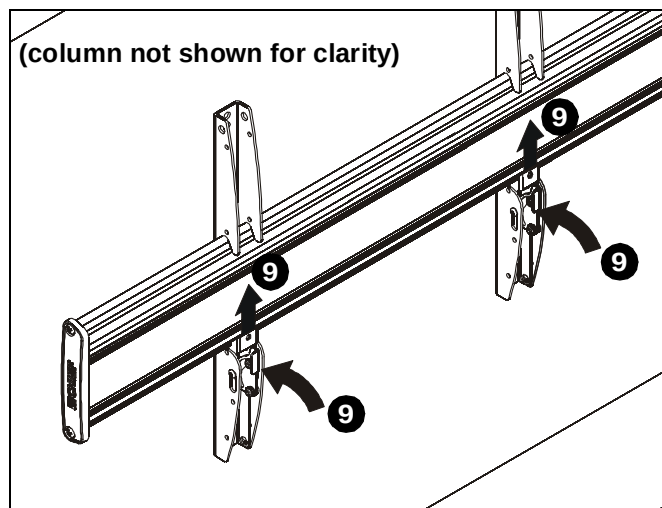

Figure 10
9. Move latches on interface uprights to the “closed” position to secure display to head assembly. (See Figure 10)